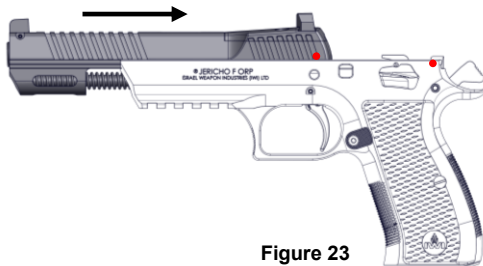
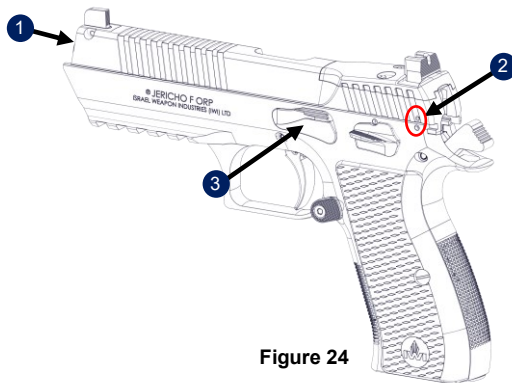

Figure 23
Figure 24
3. Mount the slide on the frame (Figure 23). and push it to the rear (1) until the marks are in line, one above the other (2), then insert the slide catch pin until it snaps into place (4) (Figure 24).